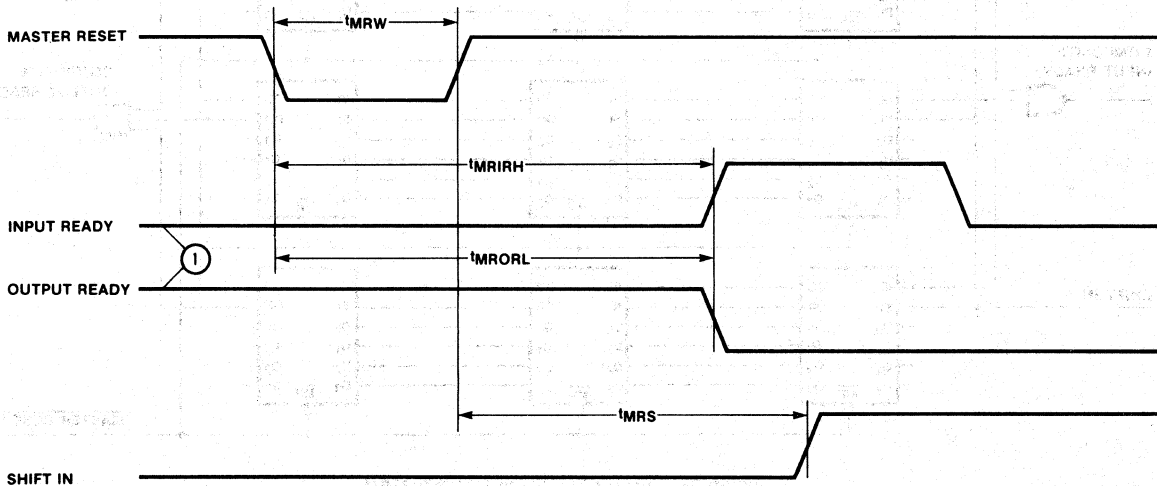

Figure 11. Master Reset Timing
After power up the Master Reset is pulsed low (Fig. 11) to prepare the FIFO to accept data in the first location. When Input Ready (IR) is HIGH the location is ready to accept data from the D_x inputs. Data then present at the data inputs is entered into the first location when the Shift In (SI) is brought HIGH. A SI HIGH signal causes the IR to go LOW. Data remains at the first location until SI is brought LOW. When SI is brought LOW and the FIFO is not full, IR will go HIGH, indicating that more room is available. Simultaneously, data will propagate to the second location and continue shifting until it reaches the output stage or a full location. If the memory is full, IR will remain LOW.